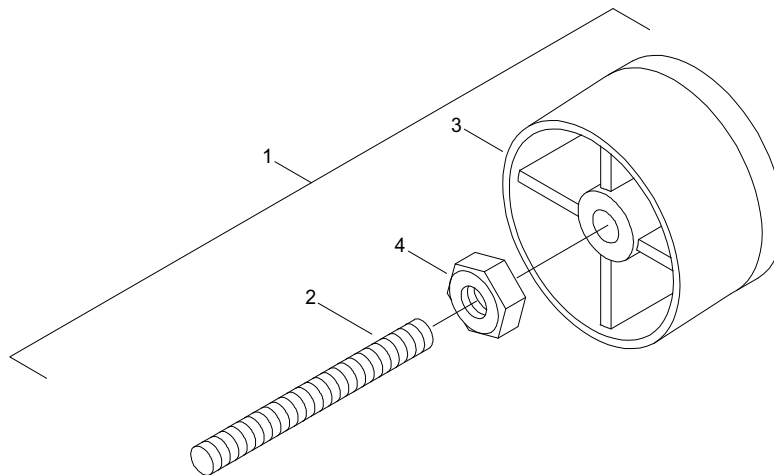

Figure 2. Outer Piston Assembly.
- a. Assemble lapping jig (Figure 2, Item 1).
- b. Install a 10-24 UNC set screw (Figure 2, Item 2) (threaded rod may be used) into outer piston (Figure 2, Item 3).
- c. Install hex nut (Figure 2, Item 4) onto set screw (Figure 2, Item 2). Tighten hex nut (Figure 2, Item 4).
- d. Insert lapping jig (Figure 2, Item 1) into a variable speed hand drill.
- f. Insert the lapping jig (Figure 2, Item 1) into seal (Figure 1, Item 22).
- g. Lubricate seal (Figure 1, Item 22) and lapping jig (Figure 2, Item 2) with alcohol continuously during lapping operation to prevent the seal (Figure 1, Item 22) from turning.
- h. With hand drill set at medium speed (approximately 1000 RPM), move lapping jig (Figure 2, Item 1) back and forth in seal (Figure 1, Item 22), maintaining contact with seal (Figure 1, Item 22) for 1 minute.
- i. Remove lapping jig (Figure 2, Item 2) from seal (Figure 1, Item 22).
- j. Using a cleaning cloth and alcohol, clean the lapping jig (Figure 2, Item 2) and seal (Figure 1, Item 22).